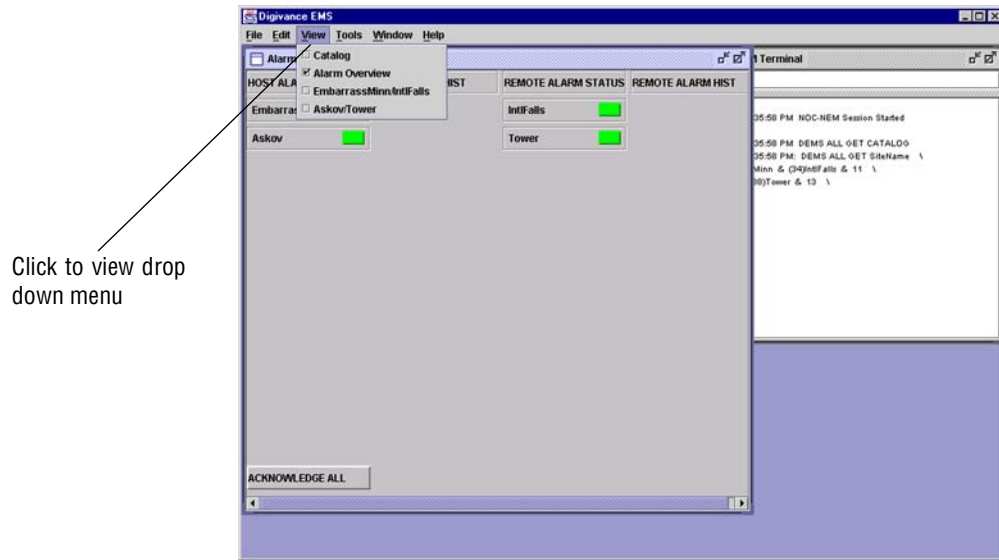

Figure 3-1. Digivance Element Management System Main Window
- Start up the EMS software program. The EMS main window will open as shown in Figure 3-1. The EMS software should be installed on a PC-type computer and the PC's COMM port should be configured to interface with the HU. For information about installing the EMS software and configuring the PC's COMM port, refer to the Digivance Element Management System User Manual (see Related Publications section).